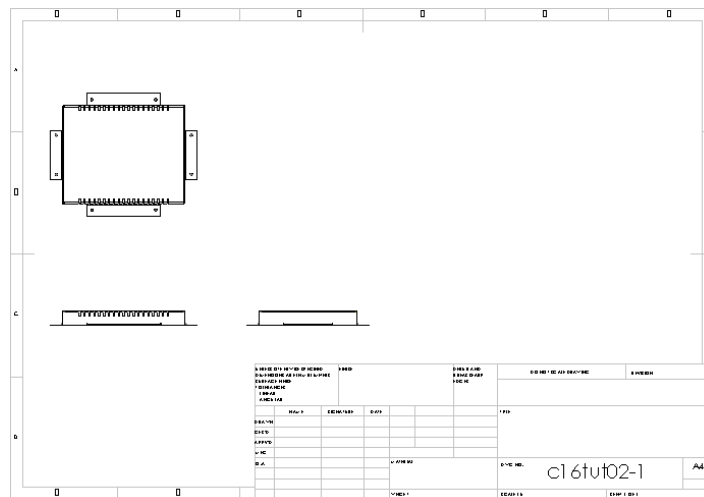

Figure 16-170 Drawing sheet after generating the three standard views
- Generate the drawing views of the sheet metal component, refer to Figures 16-170 through 16-172.
3. Generate the default three standard views of the model. Figure 16-170 shows the drawing sheet after generating the three standard views.